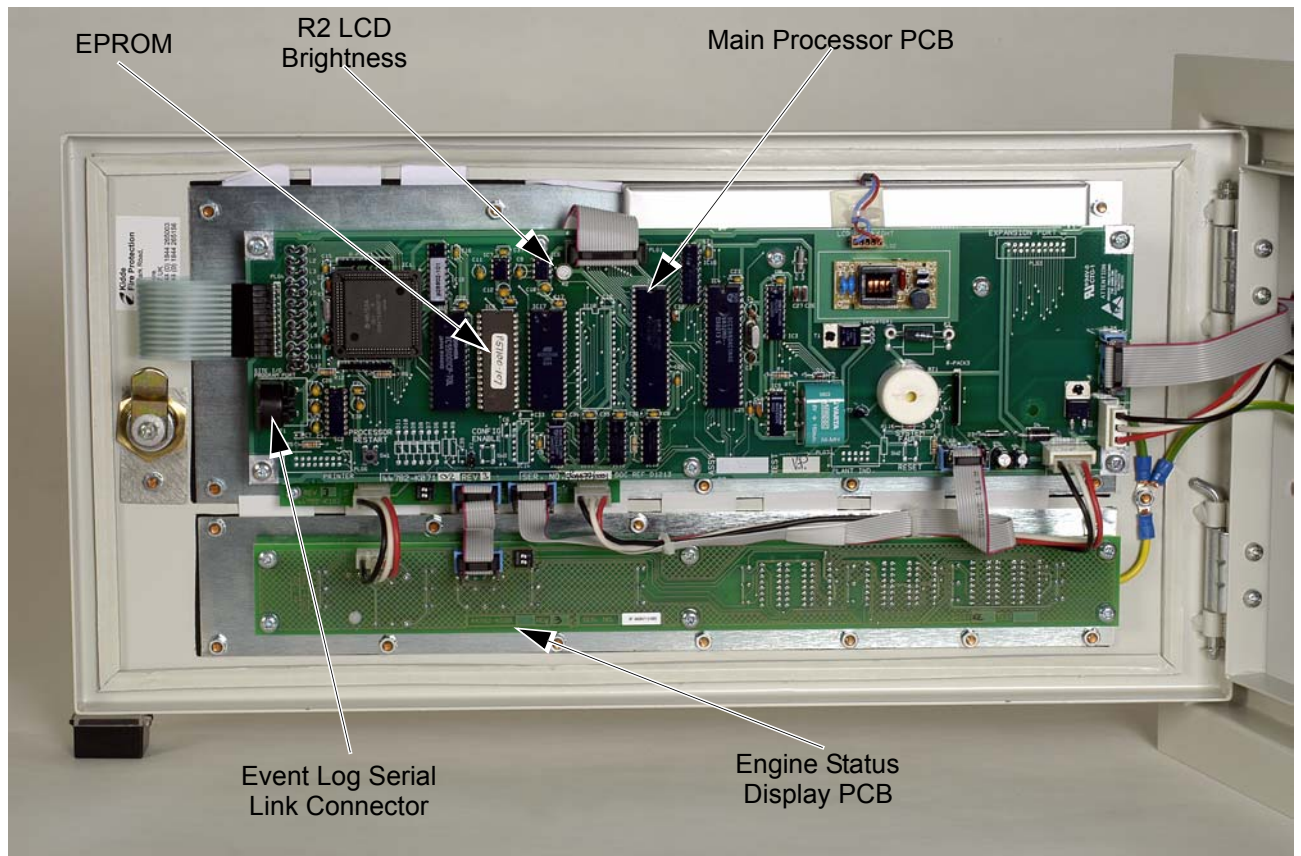

Figure 40: Control Unit PCBs
3.6.1 Main Control Processor PCB - Part No. 44782-K071-02 (refer to Figure 40)